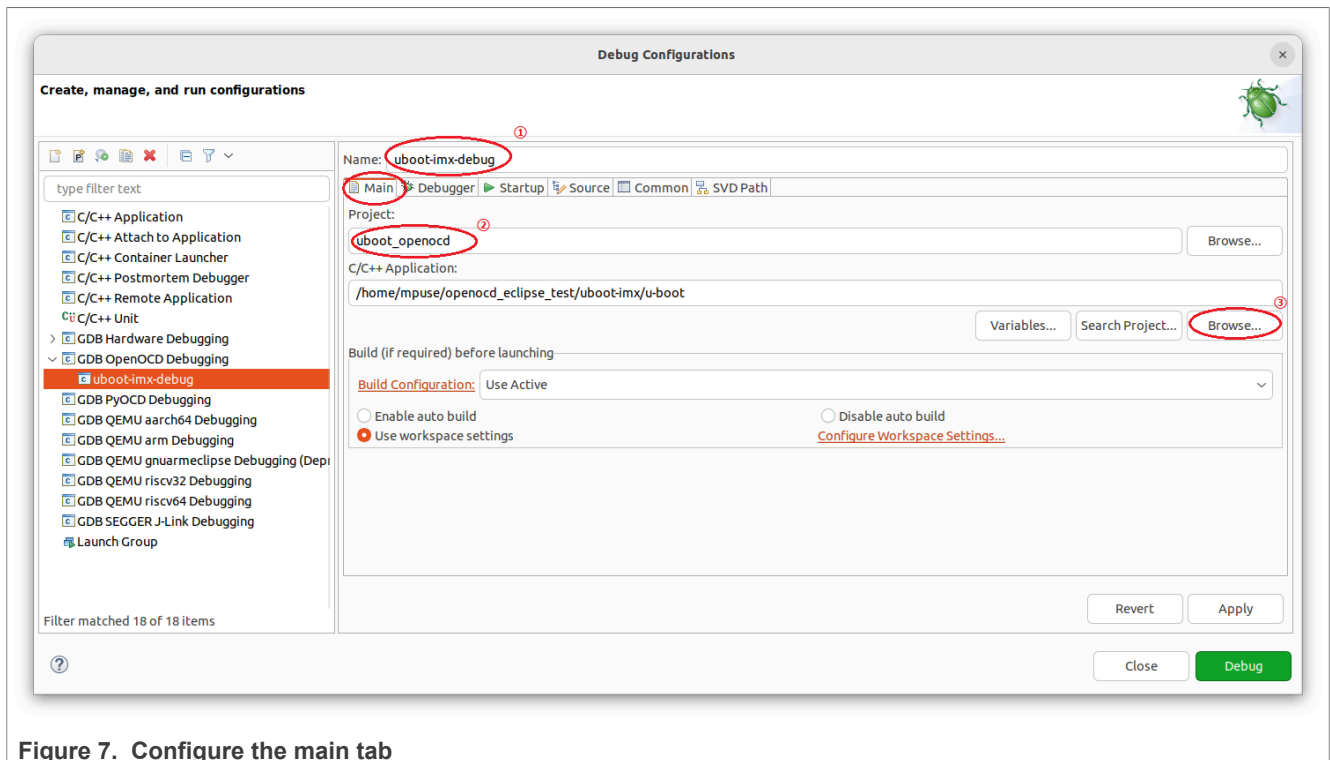

Figure 7. Configure the main tab
5. Create a **GDB OpenOCD Debugging** interface and name the configuration in **Name** as shown in Figure 7. In the **Main** tab in **Project**, name the project, in **C/C++ Application**, select the U-Boot file compiled from the U-Boot source code.